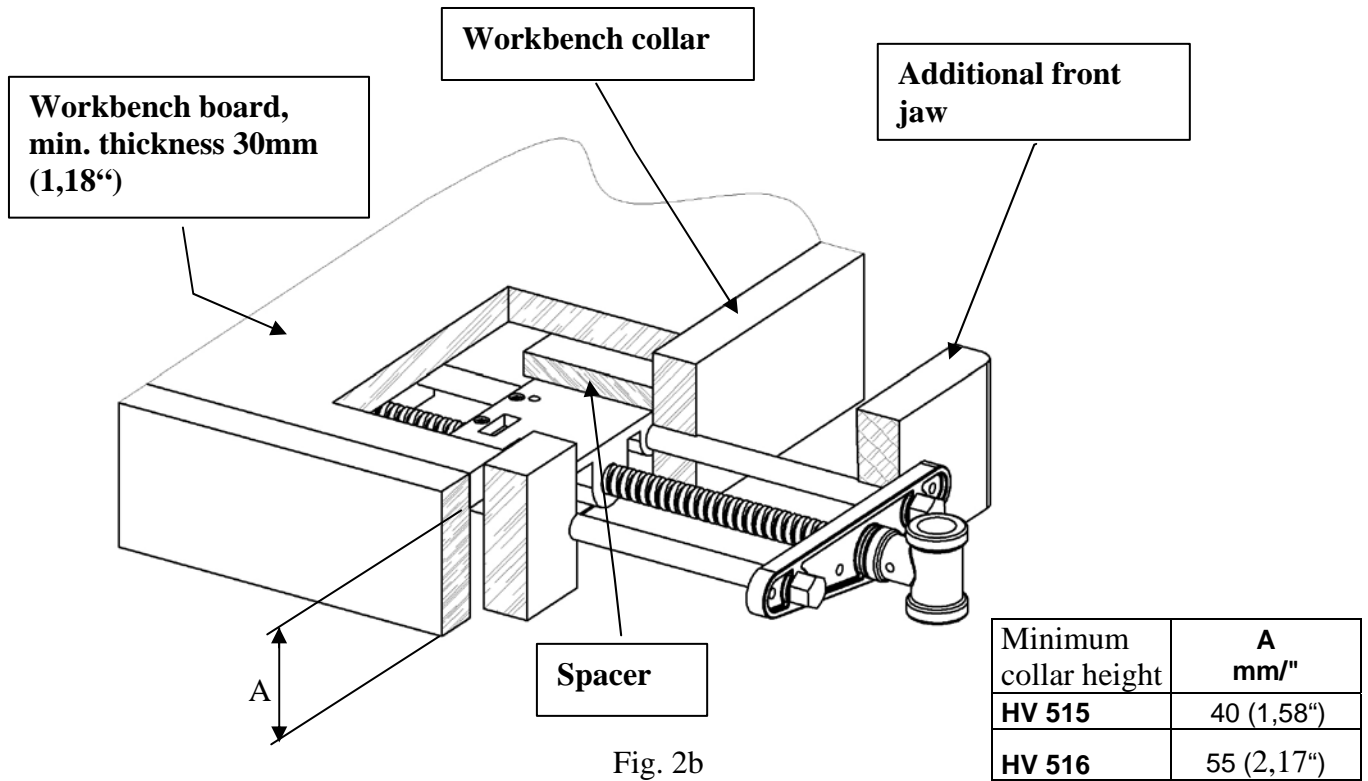

Fig. 2b
**Installation on workbench with collar – additional rear jaw not necessary - Fig. 2b**